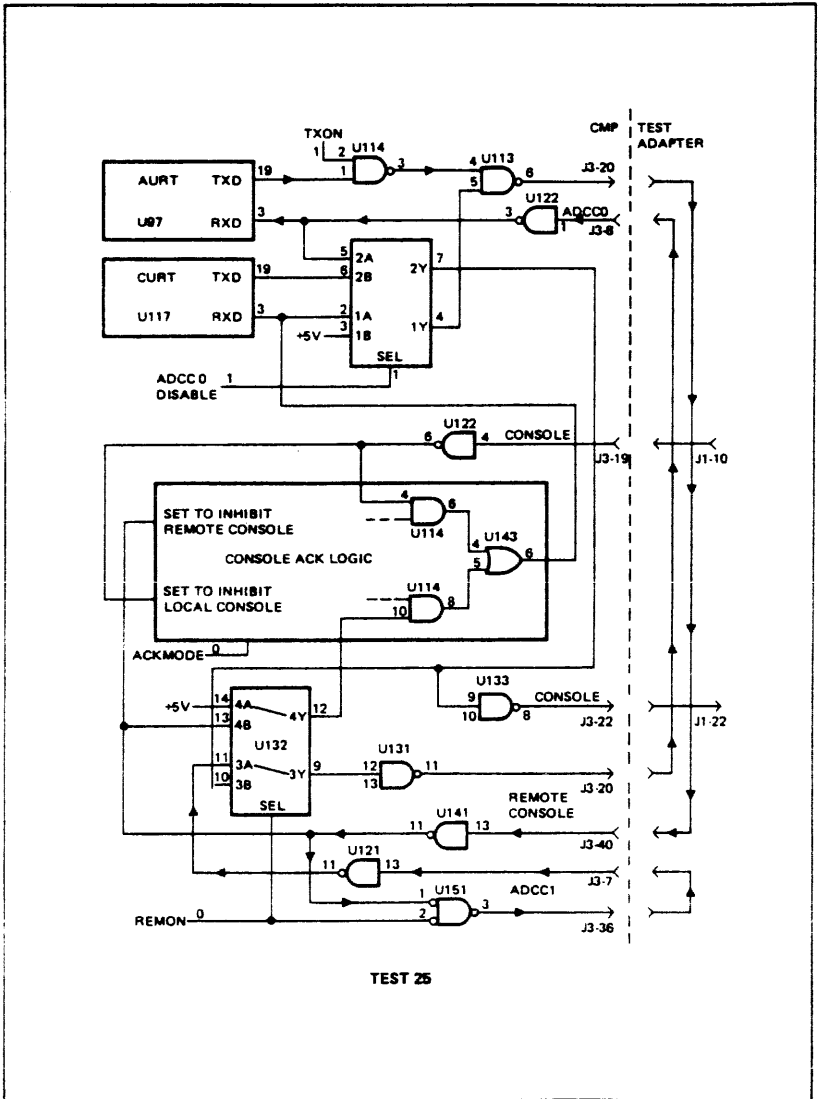

Figure 3-14. Data Comm Test Step 25
- 25 The ACK circuitry is cleared in preparation for steps 26 and 27. (See figure 3-14.)